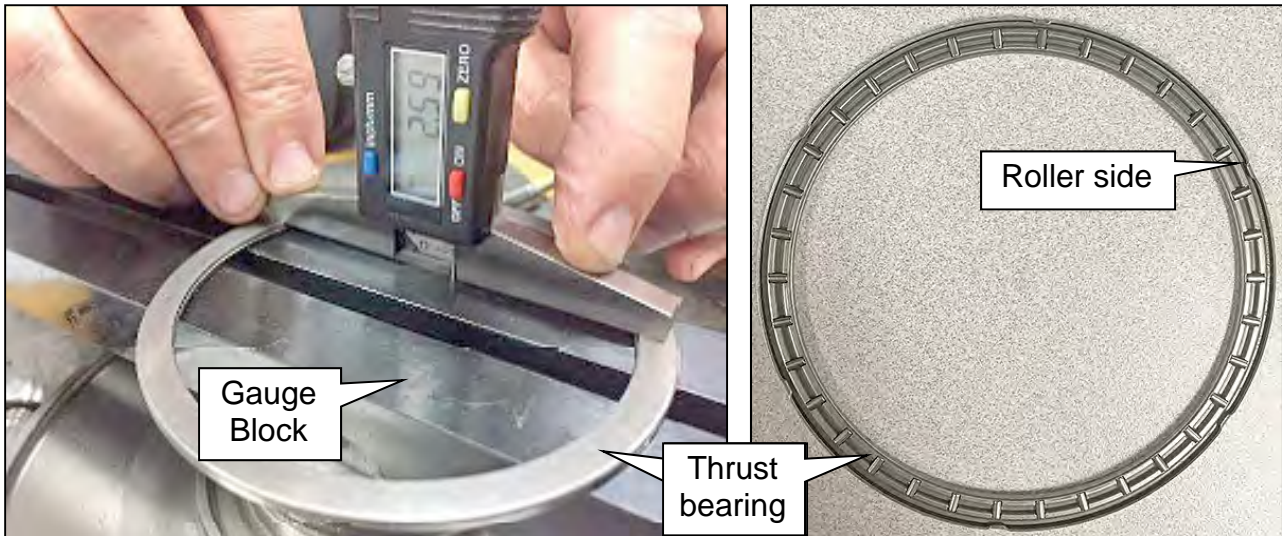

Figure 147
- Place the thrust bearing roller side down on the Gauge Block (Figure 147).